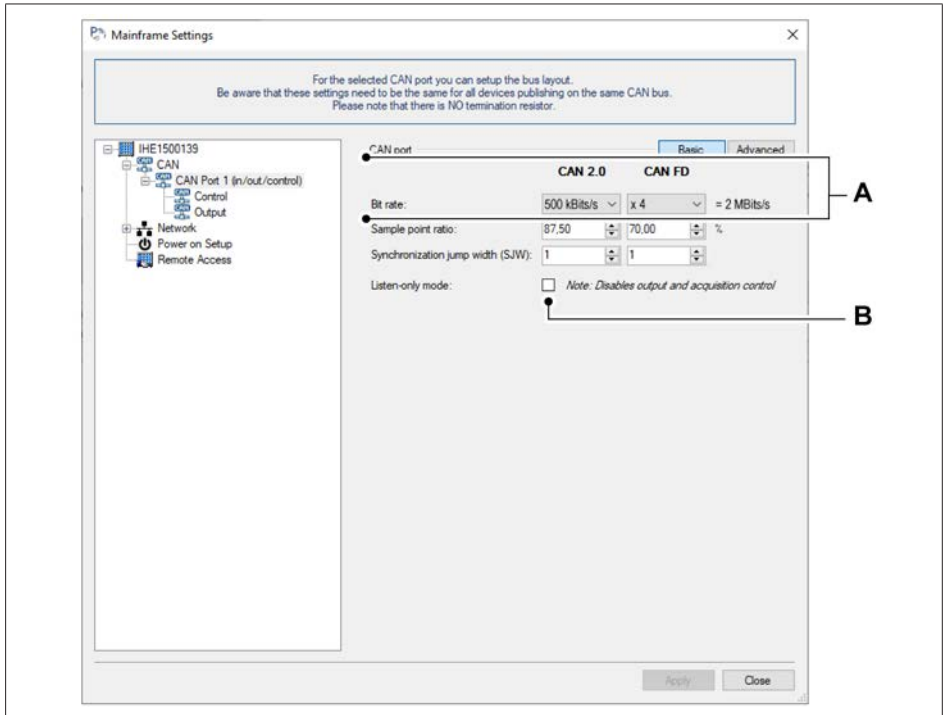

Fig. 12.25 Mainframe Settings-CAN bus settings
- Select the **CAN port setup...** button to open the **Mainframe Settings** as shown in Fig. 12.25.